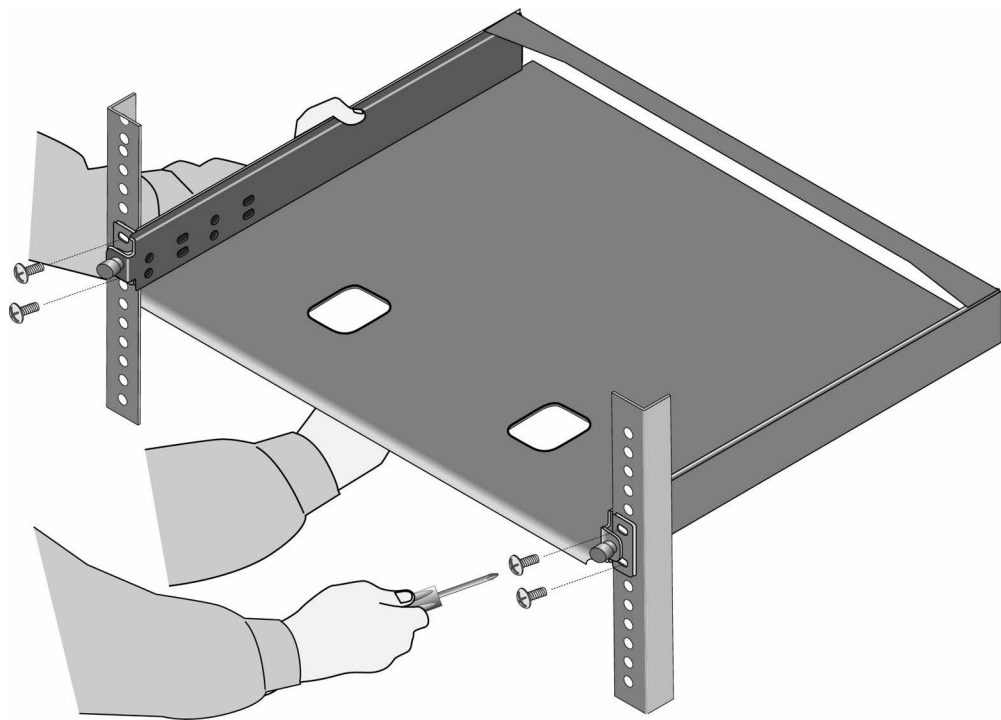

Figure 50. Installing the RKMT-J15 Tray in the Equipment Rack
3. While having another person hold the RKMT-J15 tray in the equipment rack, secure the tray using four standard equipment rack screws (not provided). See Figure 50.